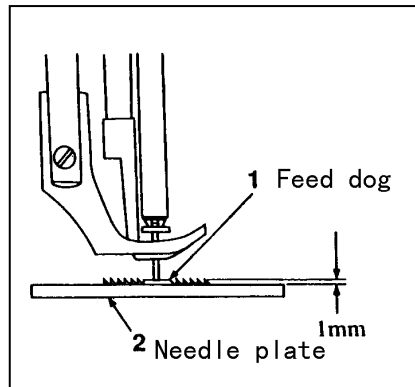

Fig.12
13. ADJUSTING THE HEIGHT OF THE FEED DOG (Fig.12)
The maximum height of the feed dog (1 Fig.12) from the surface of the needle plate (2 Fig.12) is normally 1 mm.